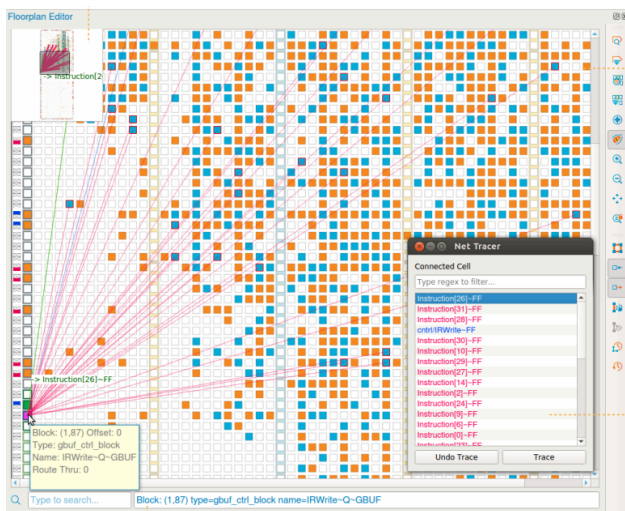

Fig. 5. Floorplan Editor
2. Start the debugger via *Tools > Open Debugger*. Since no debug profile exists, the Profile Editor window opens (Fig. 5).
4. Add a Logic Analyzer (LA) core via *Add Debug Core > Logic Analyzer*. Configure the probes to capture signals that match the VIO settings.